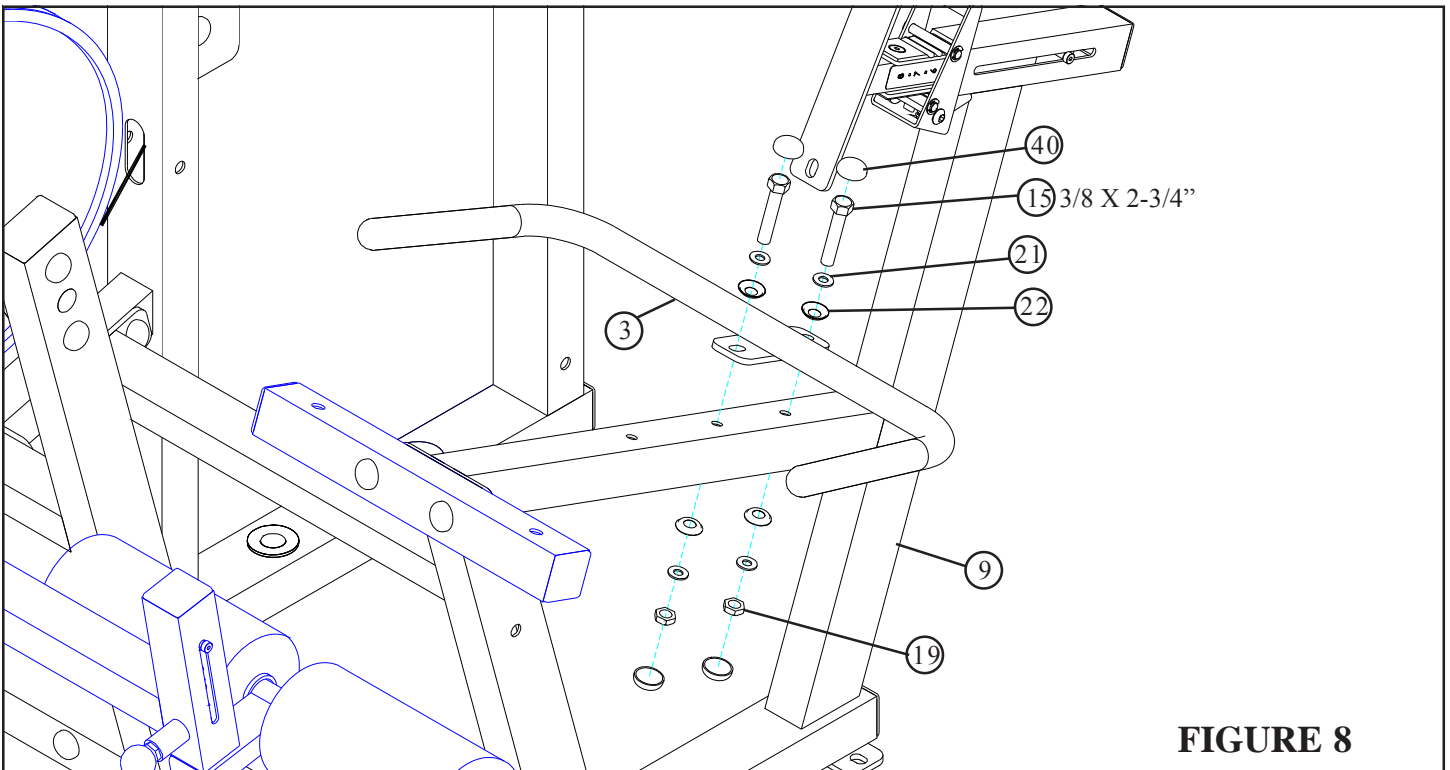

FIGURE 8
- **SECURELY** assemble the HANDLE (3) to the SEAT FRAME (9) using four RH CAPS (40), two 3/8 X 2-3/4" BOLTS (15), four 3/8" SAE WASHERS (21), four 3/8" RH WASHERS (22), and two 3/8" LOW HEIGHT LOCK NUTS (19) as shown in FIGURE 8.